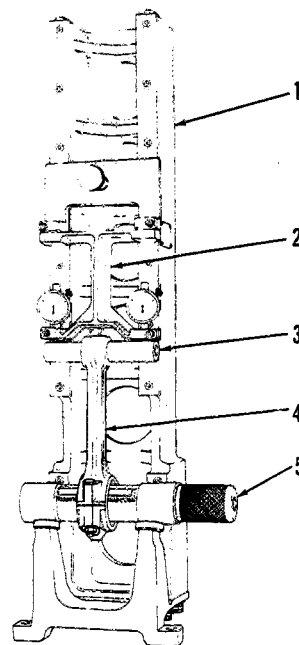

FIG. 10 CHECKING CONNECTING ROD ALIGNMENT
5. Whenever connecting rods are removed from an engine it is recommended to check alignment of the piston pin bushing end with the large bore end. Alignment, length, and twist can be checked with an alignment gauge checking fixture similar to the one illustrated in Figs. 10 and 11. The following procedure covers details of this inspection using the correct crank and pin mandrels, indicator adapter and alignment checking fixture.